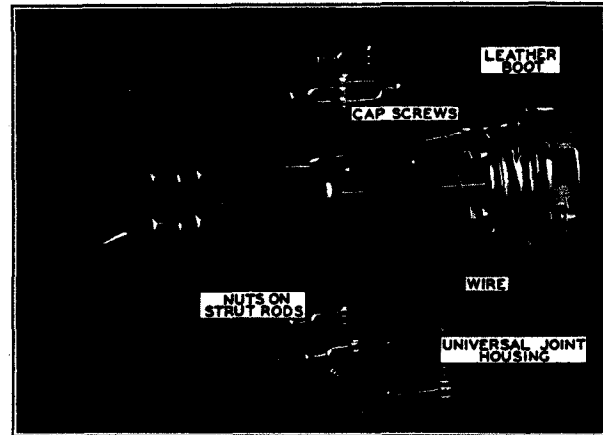

Fig. 111. Front End of Torsion Tube as Seen From Below
Remove the wire (4, Fig. 111) holding the universal joint boot (3) to the torsion tube.